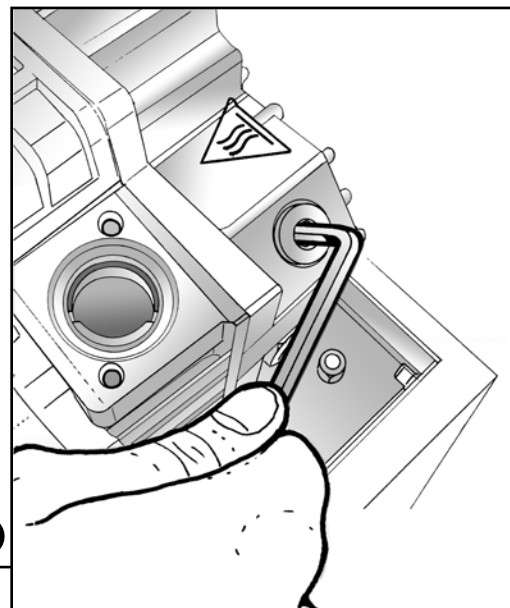

Fig. 13
- 7) Use an Allen wrench to unscrew the oil filling cap at the top of the pump (Fig. 13).